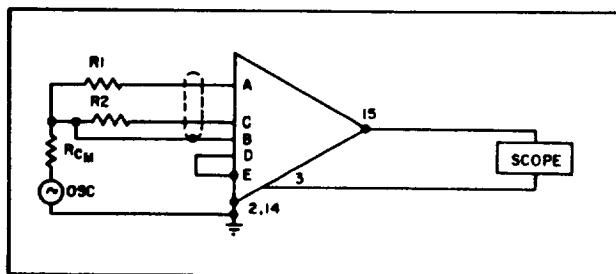

Figure 6-5. Common-Mode Rejection Test Circuit
- 1) Connect the amplifier as shown in Figure 6-5. Use an H-P 200CD oscillator or equivalent for the common-mode generator when testing the standard amplifier; use a step-up transformer between the oscillator and amplifier to provide up to 250 volts peak when testing amplifiers with gain multipliers. Use an oscilloscope capable of measuring 10 millivolts. R1 and R2 are 0-1000 ohm resistors. RCM is a 0-100K ohm resistor.
- 1) Connect the amplifier as shown in Figure 6-5. Set  $R1$ ,  $R2$ , and  $R_{cm} = 0$ .
- 6) Repeat step (4) with trimpot R10.
- 1) Connect the amplifier as shown in Figure 6-5, Set R1, R2, and  $R_{cm} = 0$ .
- 7) Repeat step (5) with R10.